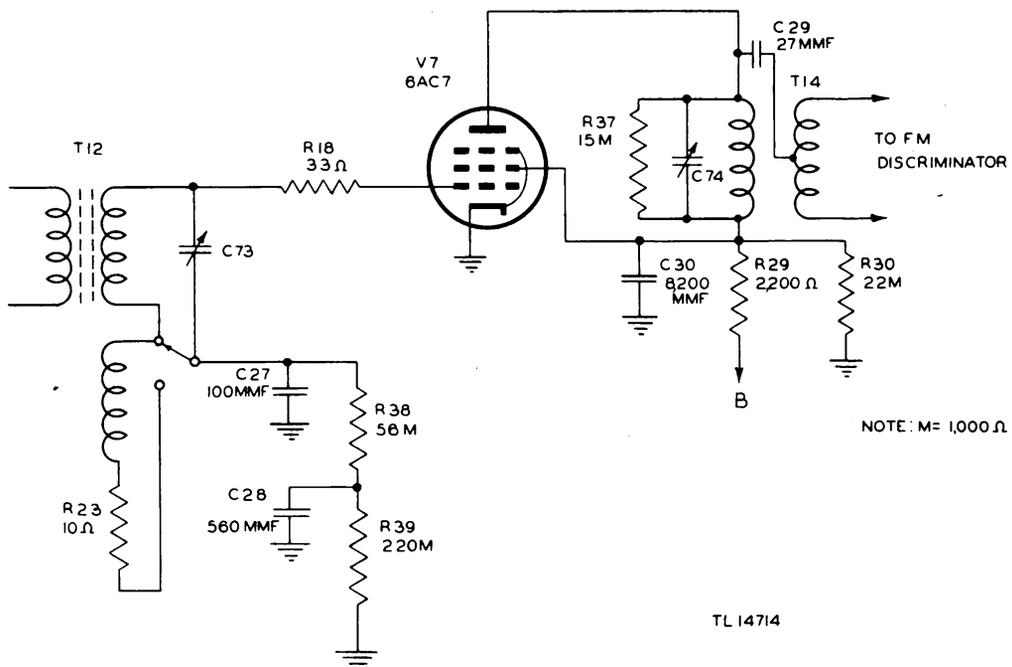

Figure 15. Radio Receiver BC-787-B, F-M limiter schematic.
**k. F-m Limiter (fig. 15).** The f-m limiter stage utilizing tube V7, a type 6AC7 pentode, operates as a saturated amplifier. The output signal amplitude remains constant over a wide range of input levels, thus eliminating amplitude variations present in the received signal. Since noise disturbances cause very little frequency modulation but do vary the received carrier amplitude